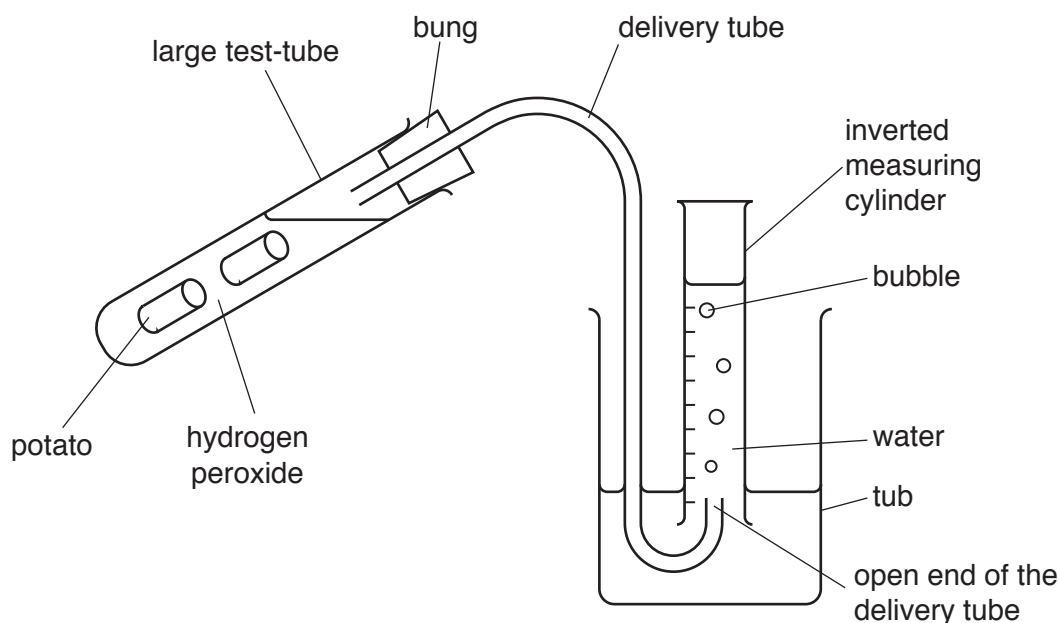

Fig. 1.2
Step 4 A 25cm3 measuring cylinder was submerged in a tub of water and allowed to fill with water. The measuring cylinder was turned upside down keeping the open end under the water in the tub as shown in Fig. 1.2.